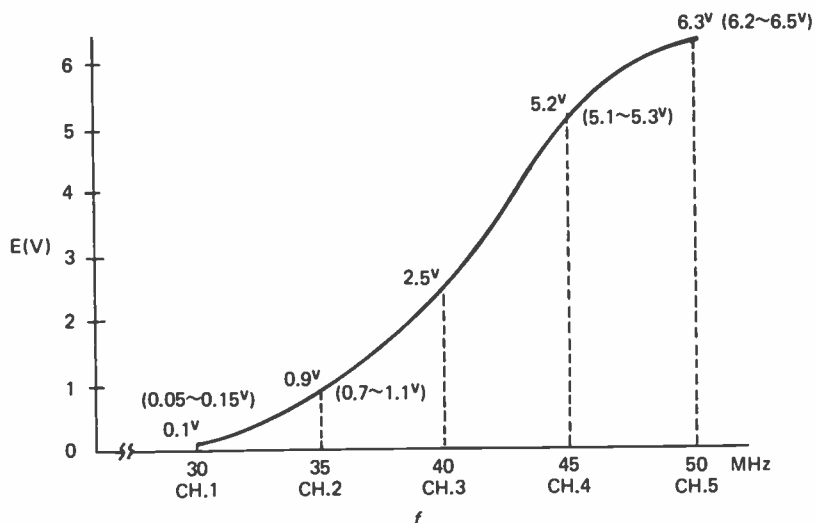

Figure 6
10. Repeat the above alignments a few times until the voltage illustrated in Figure 6 is obtained.